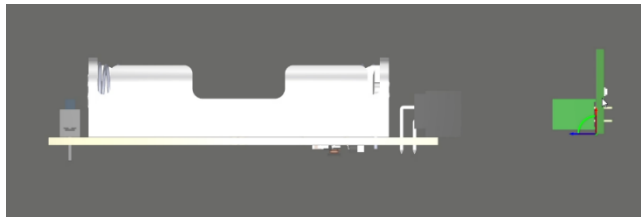

Figure 30. Move Smaller Board Away
62. Move the smaller board away from the larger board enough to see the back surface of the larger board J1 Connector, Figure 30. Use the skill sets you have attained from the previous steps to move a board within the assembly workspace area.